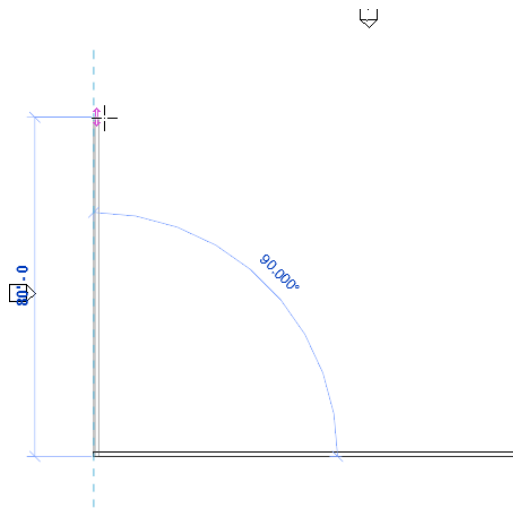

FIGURE 1.18: How Revit Architecture works is evident in this procedure.
4. With the Wall command still running, move your cursor straight up from the endpoint of your 100'-long wall. Look at Figure 1.18.